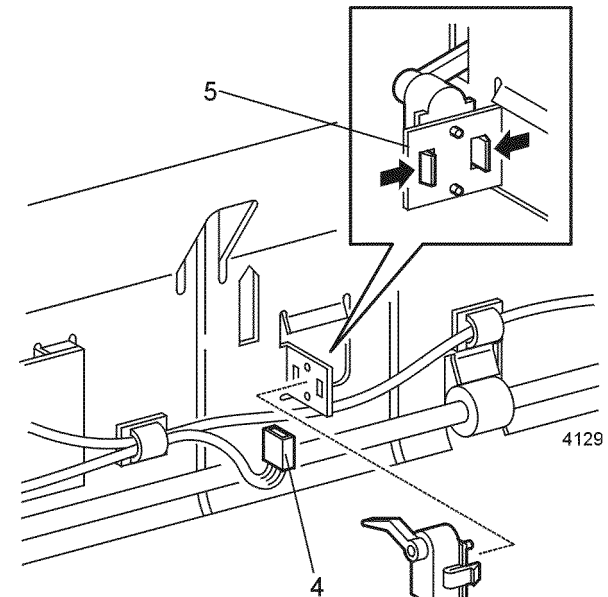

Figure 1 Paper Sensor
4. Disconnect P/J523 from the Paper Sensor (Figure 1).
5. Release the two locking tabs that secure the sensor (Figure 1). Remove the sensor.